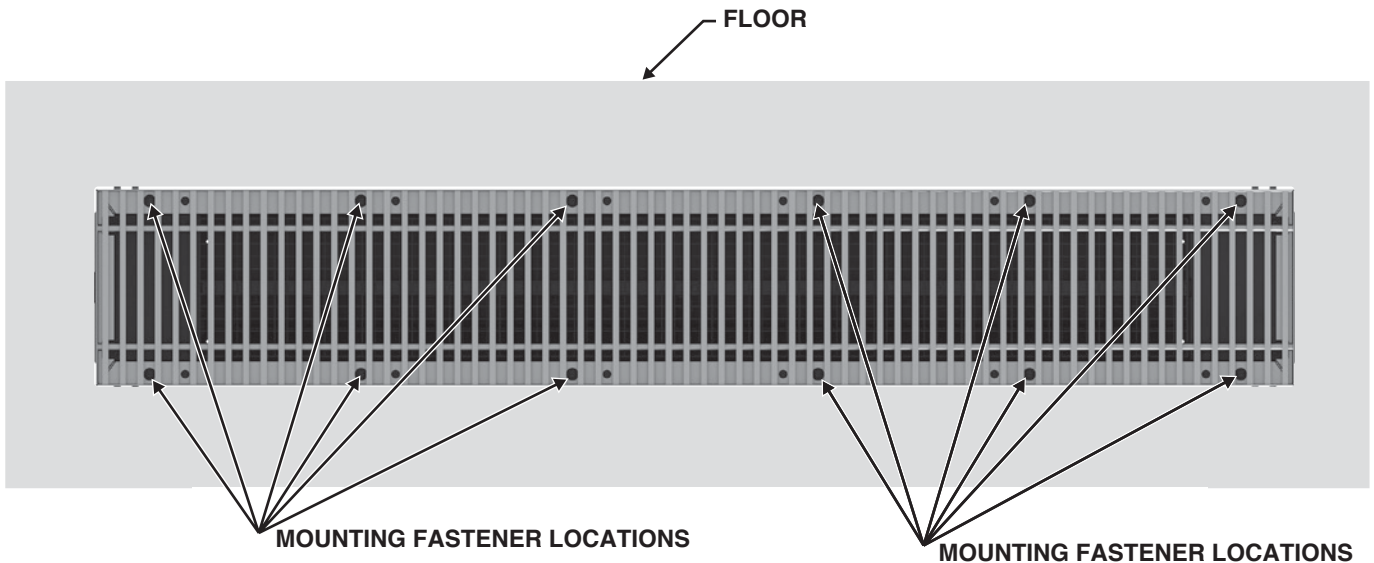

Figure 13: Mounting Fastener Locations
- Mount heater box to sidewalls of fabricated box through oversized holes located in construction cover. **Note:** the construction cover/grille assembly must be flush with floor surface. See figure 13.
14. Mount heater box to side walls of fabricated box through oversized holes located in grille. See figure 13.